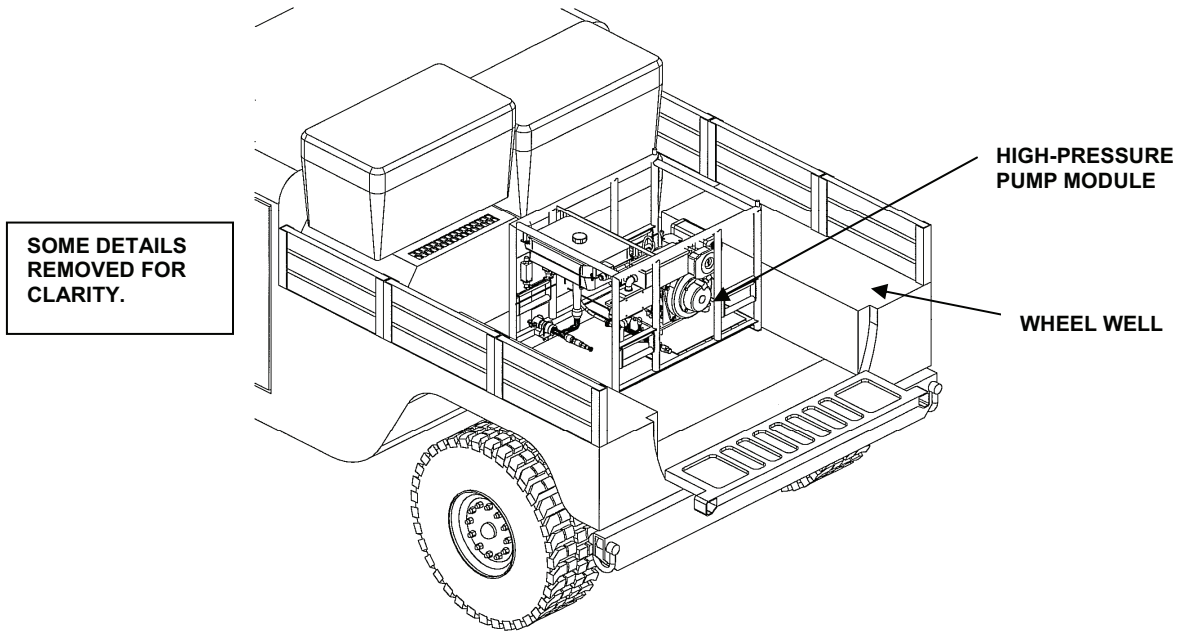
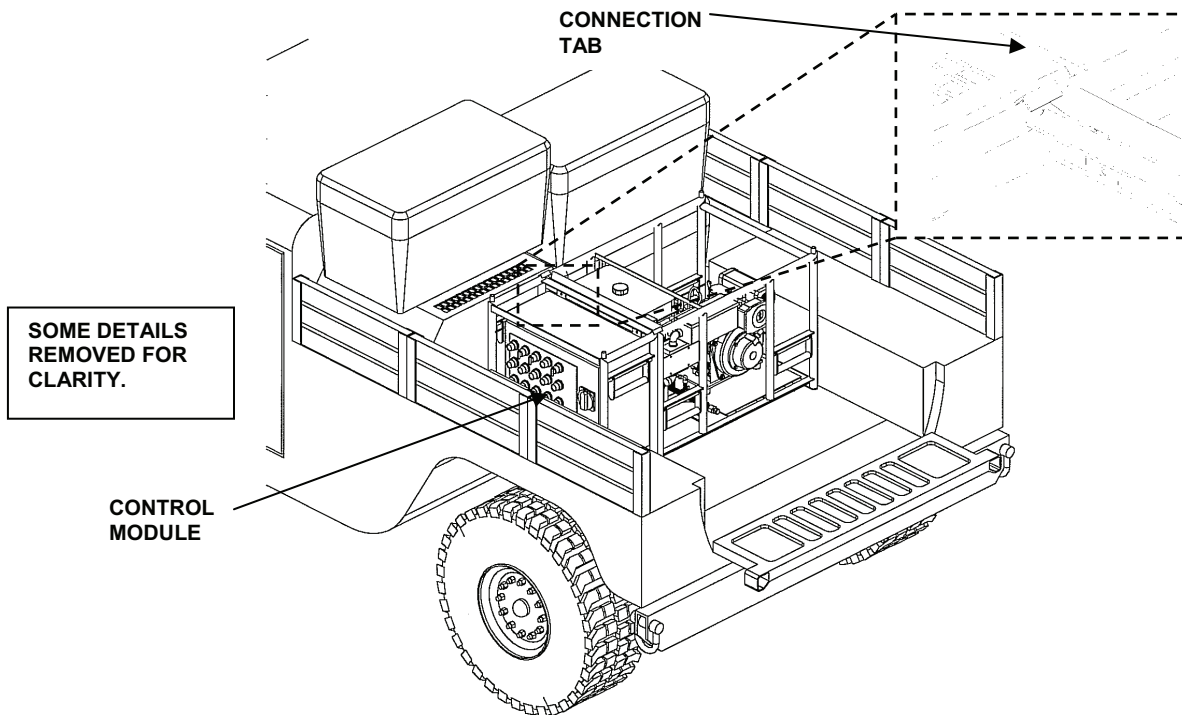

Figure 8. Loading High-Pressure Pump Module.
Figure 9. Loading Control Module.
17. Load the high-pressure pump module on the right side of the cargo compartment against wheel well. Ensure that the fuel tank is towards the center of the cargo bed to allow connection with the control module. See Figure 8 and Figure 9.
18. Load the control module in the cargo compartment between the high-pressure pump module and left wheel well. Slide the connection tabs on the control module up and over the top frame of the high-pressure pump module. See Figure 9.